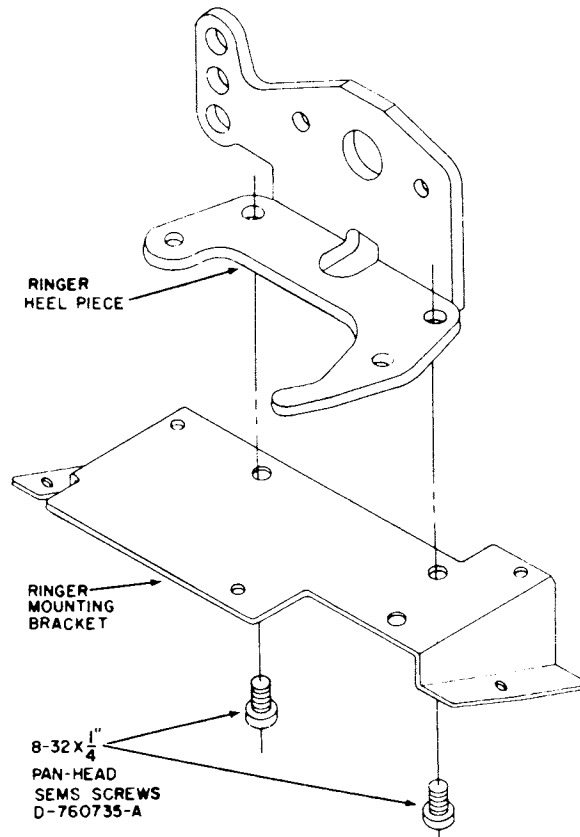

Figure 4. Attaching Ringer Mounting Bracket to Ringer.
- (4) Turn the ringer and mounting bracket (Item 10) combination upside down. Remove the two ringer securing screws (Item 5) and lift the mounting bracket off the old ringer as shown in Figure 4.